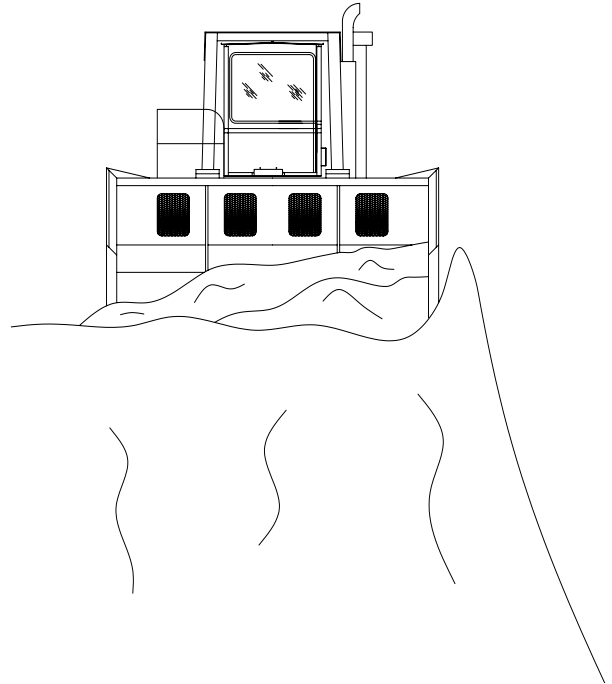

Fig. 5-14
1. When cutting on the edge of a pile, be certain to leave at sufficient berm. There are safety as well as practical reasons for this procedure. See Fig. 5-14